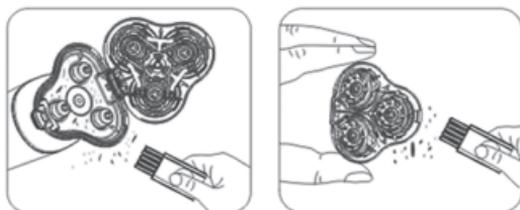

Рис. 4
- Using a brush (10), clean the shaving block and the shaving heads (2) both from the inside and the outside, and clean the blades drive (fig. 4).